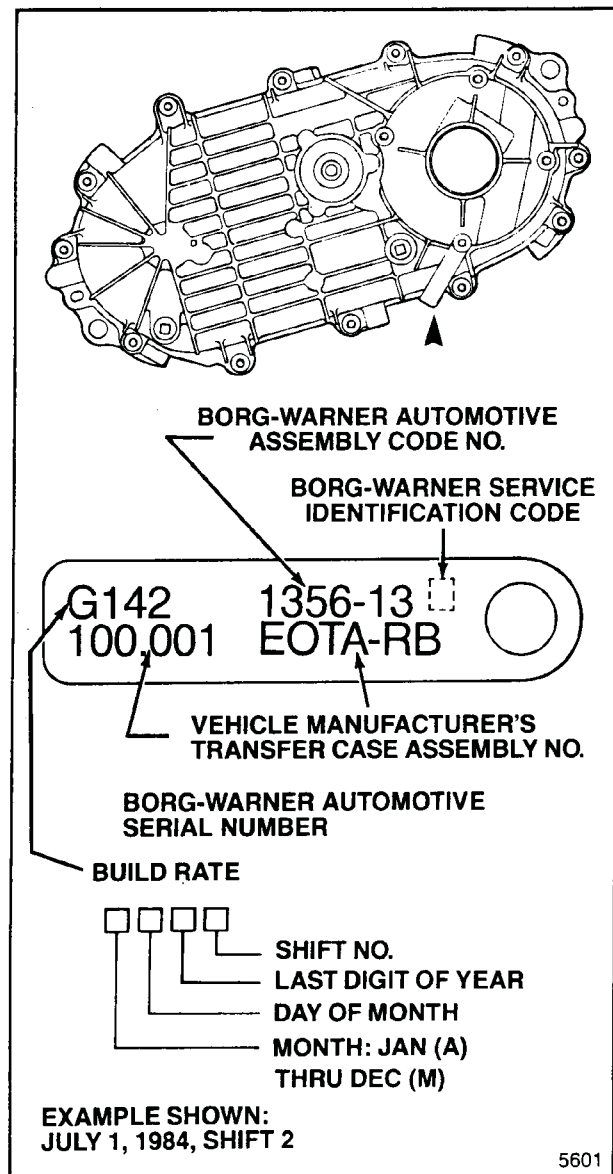

Figure 1-1. Identification Tag
*Date of manufacturer—see ID tag (11) and figure 1-1
1-12. IDENTIFICATION. The identification tag is installed on the transfer case at the location shown in figure 1-1, looking at the rear of the case. Figure 1-1 also illustrates the information to be found on the tag, some of which may be necessary for specifying correct replacement parts. Figure 1-1 also shows the alternate identification marking location which contains the same information.